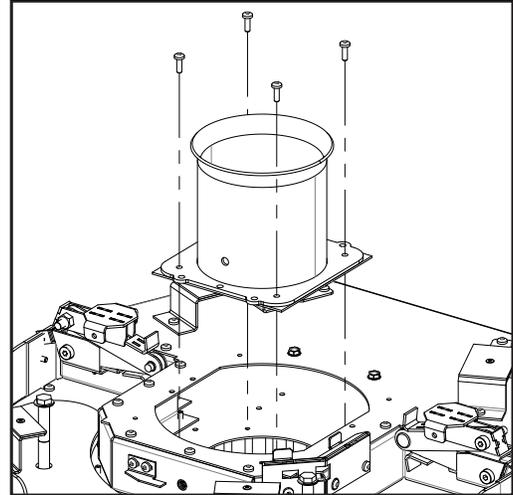

Figure 64: Exhaust Spigot Removal
8. Remove the exhaust spigot from the top of the unit by removing the four (4) T20 screws (see Figure 64). Be delicate with the gasket, you will be reusing this.